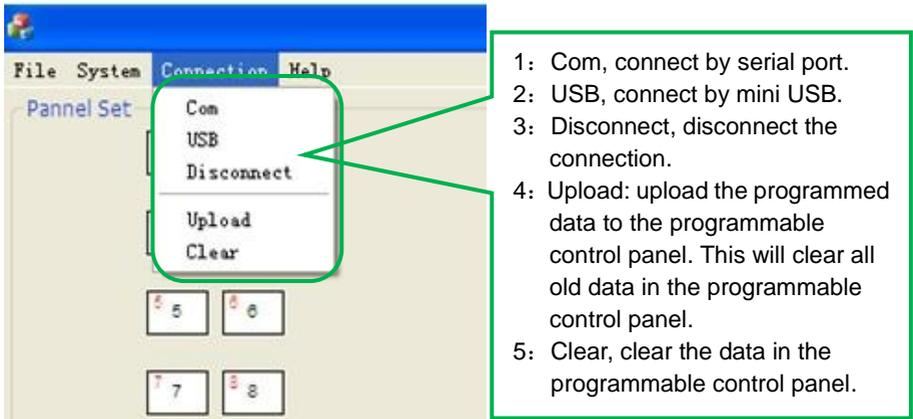

Figure 10 Connection type
- 3) Connection type: There are five connection types (modes), which are described and listed in Figure 10 below.